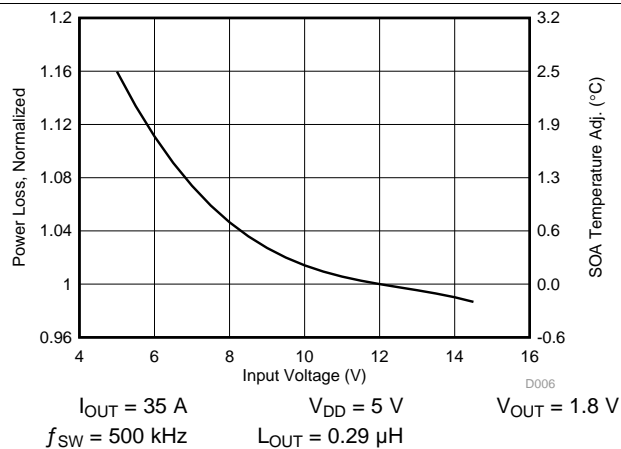

Figure 9. Normalized Power Loss vs Input Voltage
- Normalized power loss for input voltage ≈ 0.99 (Figure 9)
- SOA adjustment for input voltage $\approx -0.12^\circ\text{C}$ (Figure 9)